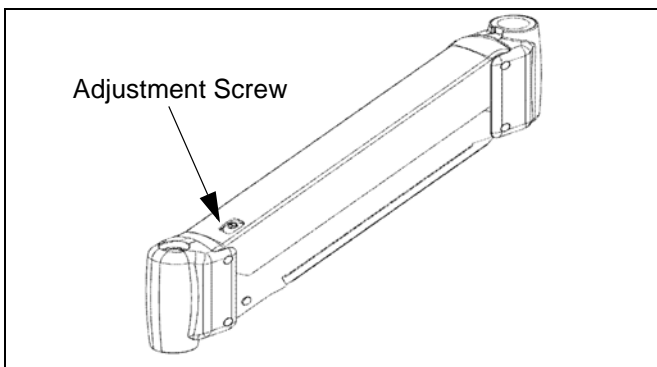

Figure 24: Height Adjustable Arm Adjustment
1. Using 5/32" hex key, slightly loosen or tighten the adjustment screw as necessary (See Figure 24).